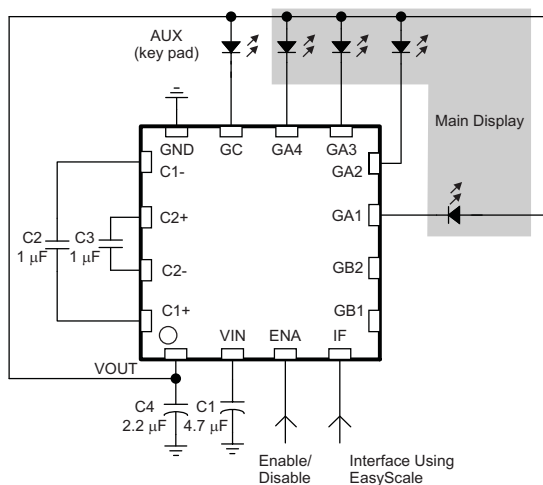

Figure 19. Application Circuit—Bar Mobile Phone Design
- **Bar** (Figure 19)—application circuit for driving four LEDs for LCD display backlight and LEDs for key pad backlight.